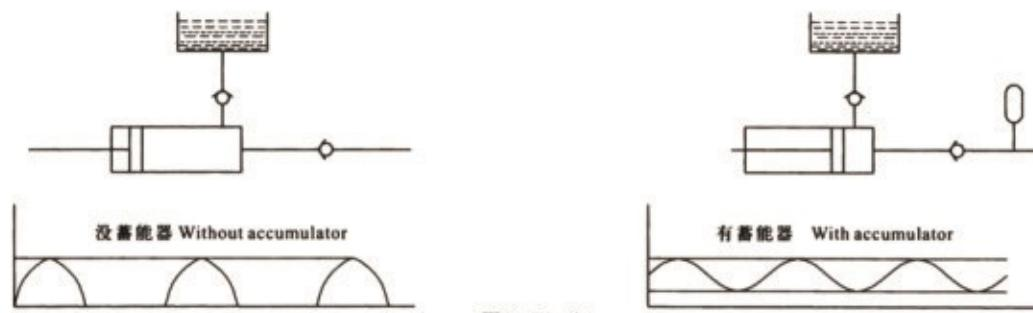

图3 Fig.3
1、柱塞泵和隔膜泵在运行时会在液压回路里不可避免地产生脉动，这既不利于运动又有害于部件的使用寿命。在靠近泵的出口侧装上囊式蓄能器，可吸收脉动，使脉动降到满意的程度（图3）。典型的用途如：用于定量泵及活塞数较少的柱塞泵等。
Both piston and diaphragm pumps create pulsation or pressure peaks during operation, this being undesirable and detrimental to both the smooth operation and operational life of components. The fitting of an accumulator adjacent to downstream of the pump will dampen the pulsation to an acceptable level (fig.3) Typical applications are dosing pumps, pumps with a small number of pistons etc.